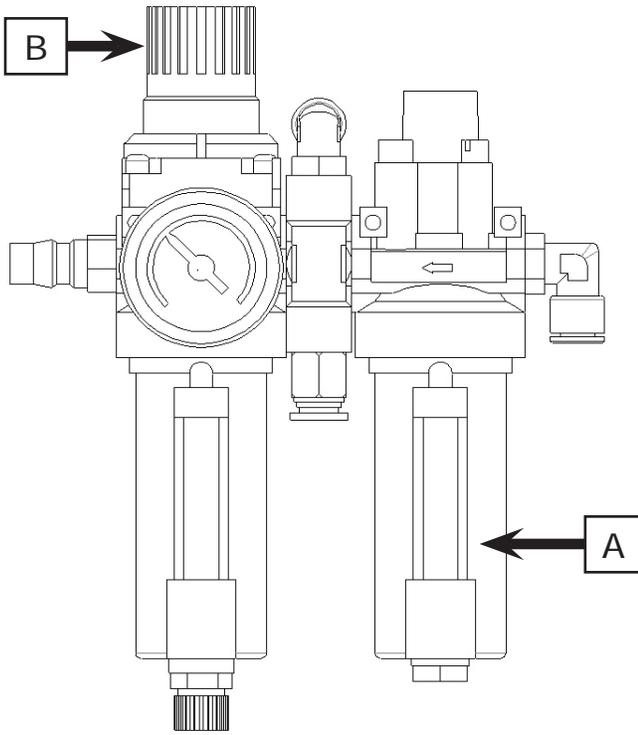

Fig. 18
- Check the oil level in the lubricator (A/fig.18) at least once a month. If the oil level is below the middle of glass cup, add the oil SAE30.
- Check function of the pressure regulator (B/fig.18) at least once a month. Be sure the pressure regulator should never be adjusted to exceed 145 psi (10 bars).